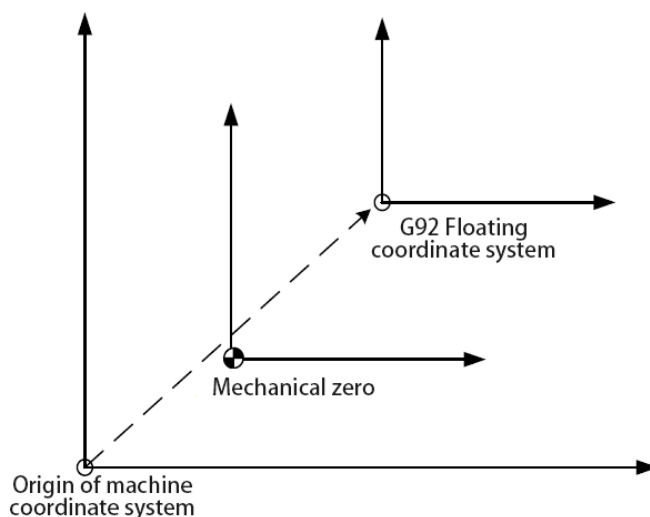

Fig. 3-2-11-1
1. As shown in Figure 3-2-11-1, the origin corresponding to the G92 floating coordinate system is the value under the machine tool coordinate system, which has no relationship with the workpiece coordinate system and can only be established after the machine tool returns to the mechanical zero point.